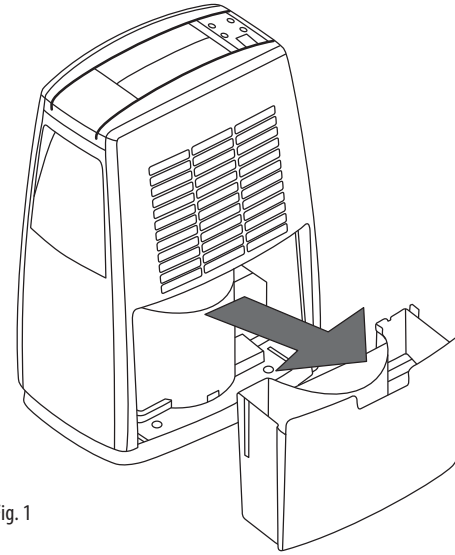

Fig. 1
When not using the water hose, the water will drain into the tank at the rear of the unit. As soon as the tank is full the light (13) will illuminate and the unit will shut off automatically. The tank should be emptied as shown in the diagram (See Fig. 1 & Fig. 2).